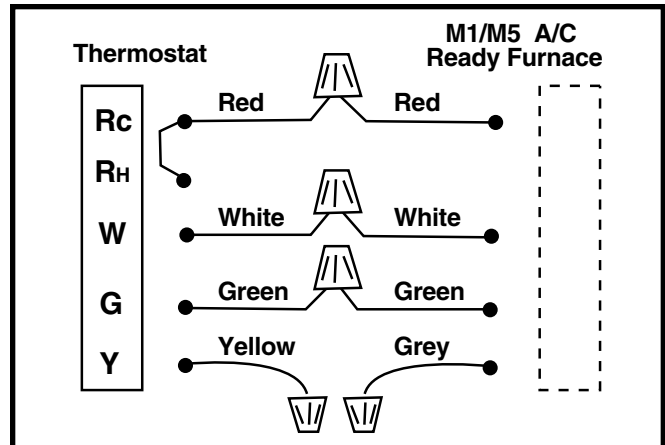

Figure 25. Thermostat Wiring For A/C Ready Models
Proper line voltage polarity must be maintained in order for the control system to operate correctly. Verify the incoming neutral line is connected to the white wire and the incoming “hot” line is connected to the black wire. The furnace will not operate unless the polarity and ground are properly connected as shown in Figure 25 \(page 15\).
2. Connect the thermostat wires to the furnace low voltage pigtails. See Figure 25.